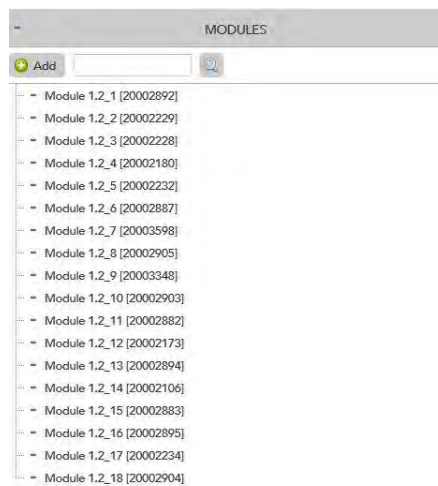

Figure 56: Serial numbers of modules in squared brackets.
7. After adding all the String Readers, wait for the next data transmission. Now the serial numbers of Sunsniffer® Sensors should stand in square brackets next to the module numbers in the column "Modules" (Figure 56).